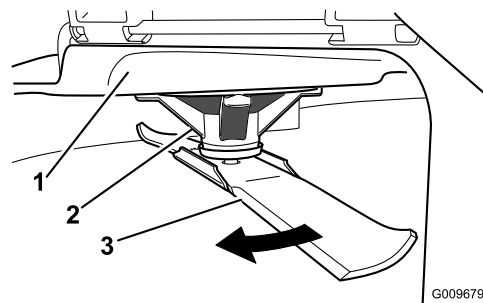

Figure 53
2. While wearing thickly-padded gloves, or other adequate hand protection, slowly rotate the blade to be measure into a position that allows effective measurement of the distance between the cutting edge and the level surface the machine is on (Figure 53).